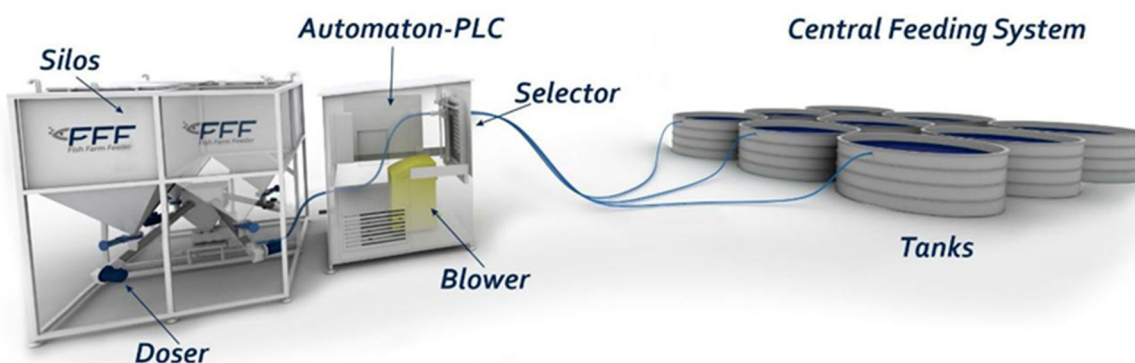

Figure 1: Feeder components
**Figure 1: Water quality parameters are not only of importance in RAS but also during live transport of fish. Here, rainbow trout are transported from land-based production systems to the sea for on-growing. Capture from production units (A) and transfer by fish pump to a transportation truck (B) places physiological demands on the fish, and fish are typically transported at high densities. During transport, fish excrete ammonia nitrogen and carbon dioxide to the water, which may affect their recovery following transfer to sea cages (C).**